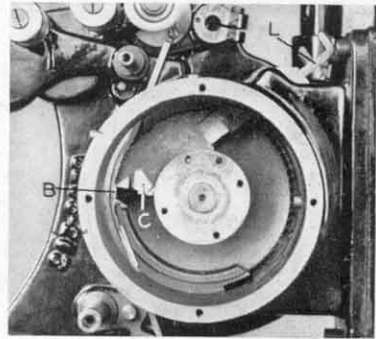

Fig. 6
- Fig. 6—The Triple Adjustment Sound Mask Attachment—installed.